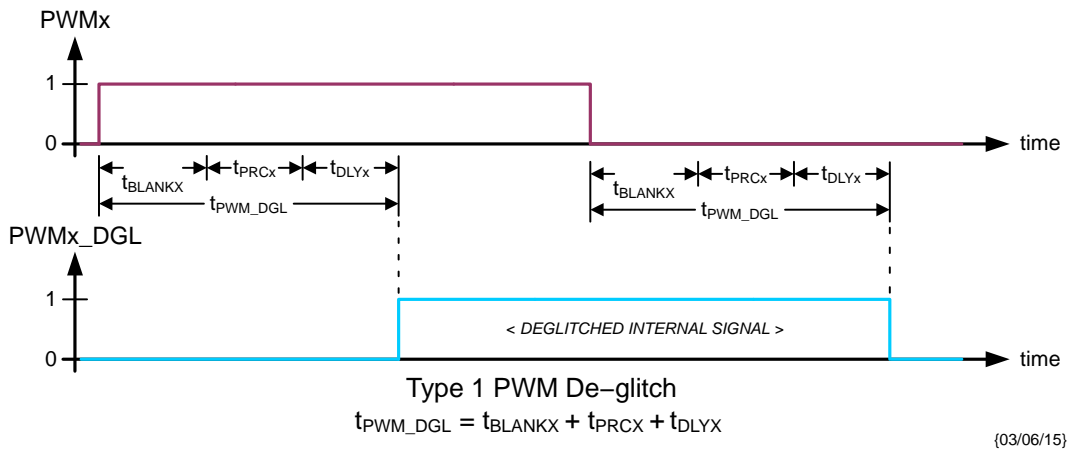
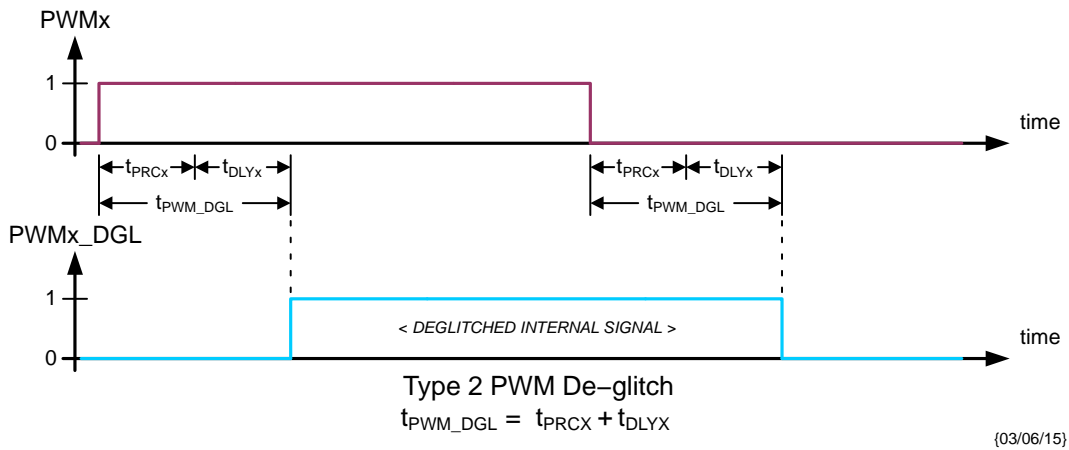
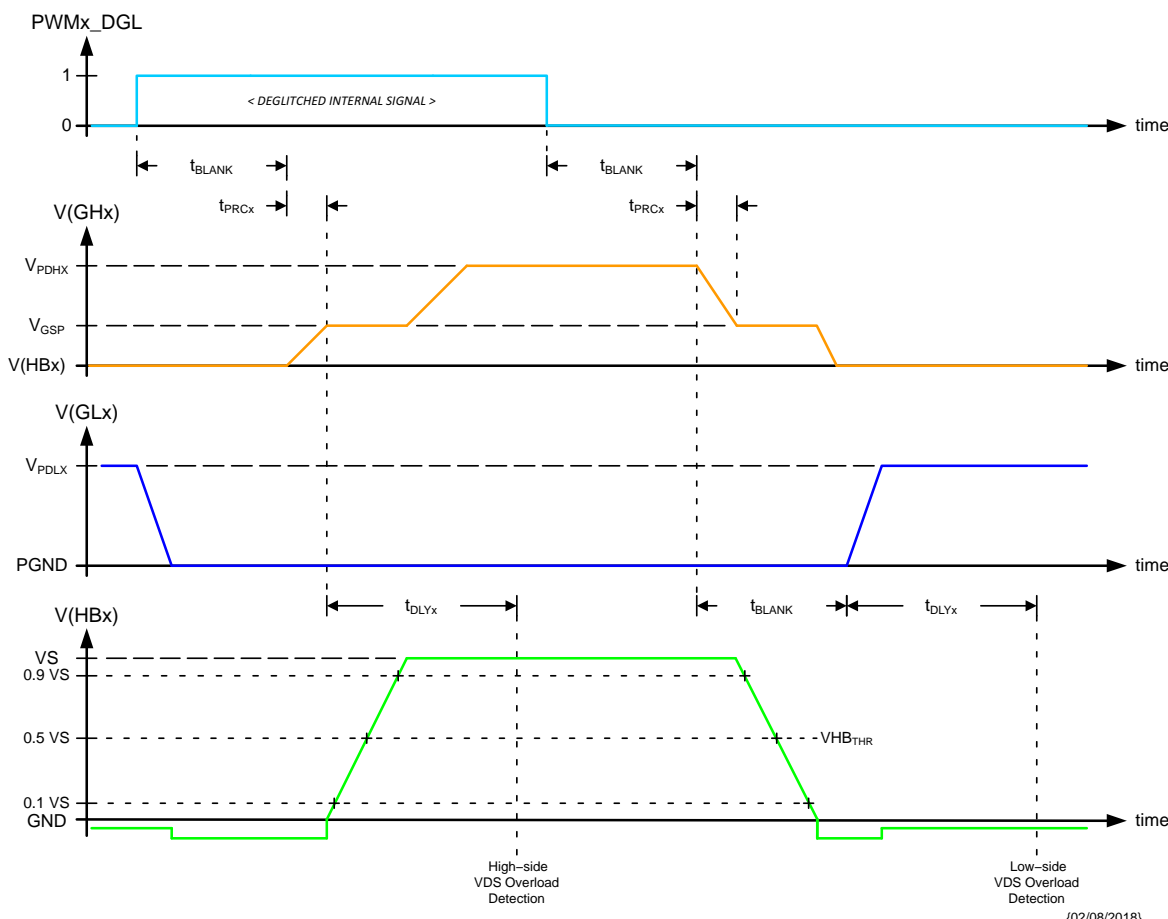

Figure 10. Type 1 PWMx Input De-glitch – CR14.DGLx = 0
Figure 11. Type 2 PWMx Input De-glitch – CR14.DGLx = 1
Figure 12. HBx Output Switching in Half-Bridge Configuration
When multiple PWMx inputs are needed to be active, the scheduled PWM signals should be offset in time to avoid degradation of the VDS overload detection due to crosstalk (see § *Overload Protection*). The minimum offset should be based on the t_{PWM_DGL} times appropriate for the respective channels (see § *Switching Behavior of Half-bridge Drivers*, Figure 10 and Figure 11).
- adaptive PWM input de-glitch construction when in half-bridge configuration is selected by DGLx[6:0] bits (see Figure 10, Figure 11, Table 21 and Table 22).
In order to not overload the charge pump circuit in case of loss of VS or in case of a disconnected security switch, the steady state output current of the high-side gate drivers is limited to I_{GHX_SS} after $t_{TIMEOUT}$ (see $I(GHx)$ in Figure 12 and § *Electrical Characteristics: Half-Bridge Pre-Driver Outputs*).
When operating in PWM mode, type 1 de-glitch is selected when CR14.DGLx = 0 (see Figure 10) and the adapted time is given by:
Type 2 de-glitch is selected when CR14.DGLx = 1 (see Figure 11) and the adapted time is given by:
When operating in PWM mode, the timing of the gate drivers is according to Figure 12.
- the PWMx_DGL resulting from the channel's operating configuration (see § *Switching Behavior of Half-bridge Drivers*, Figure 10 and Figure 11);
The appropriate latch is set (after the adapted t_{PWM_DGL} – see Figure 10 and Figure 11) at the start of the switch activation (see V(HBx) in Figure 12). In the case of the high-side MOS, the delay time t_{DLYX} is started at the end of the pre-charge time (t_{PRCX}). In the case of the low-side MOS, the delay time t_{DLYX} is started concurrent with the GLx turn-on current (see I(GLx) in Figure 11). At the end of time t_{DLYX} the switching node voltage is compared with the appropriate VDS_{THR_R} or VDS_{THR_F} overload detection threshold (see § *Electrical Characteristics: Half-Bridge Diagnostics*).